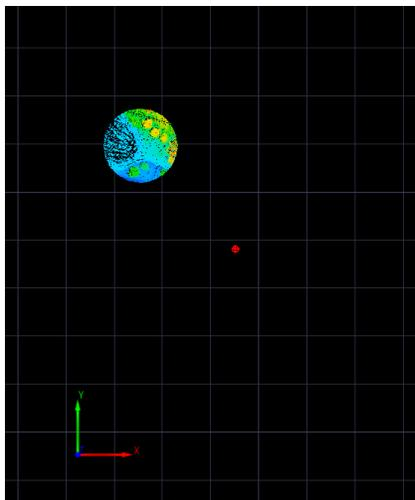

Figure 3-110 Cut Unselected Point
- (1) Click menu <Tools>→<Cut Unselected Points>.
- (2) Only the point cloud with selected status will be retained in the current view (Figure 3-110).